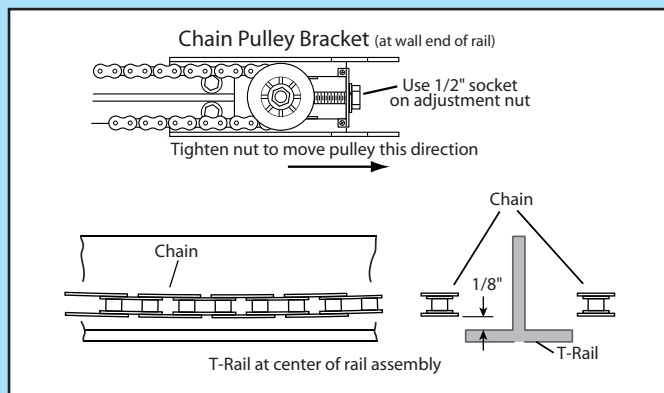

FIG. 1-6 Chain adjustment.
2. Tighten the chain by turning the adjustment nut clockwise. The chain adjustment nut is located in the Chain Pulley Bracket (opposite rail end from the power head) (Fig. 1-6).
3. Tighten chain until chain is approximately 1/8 inch above the base of the rail at midpoint on the rail (Fig. 1-6). Do NOT over tighten chain.